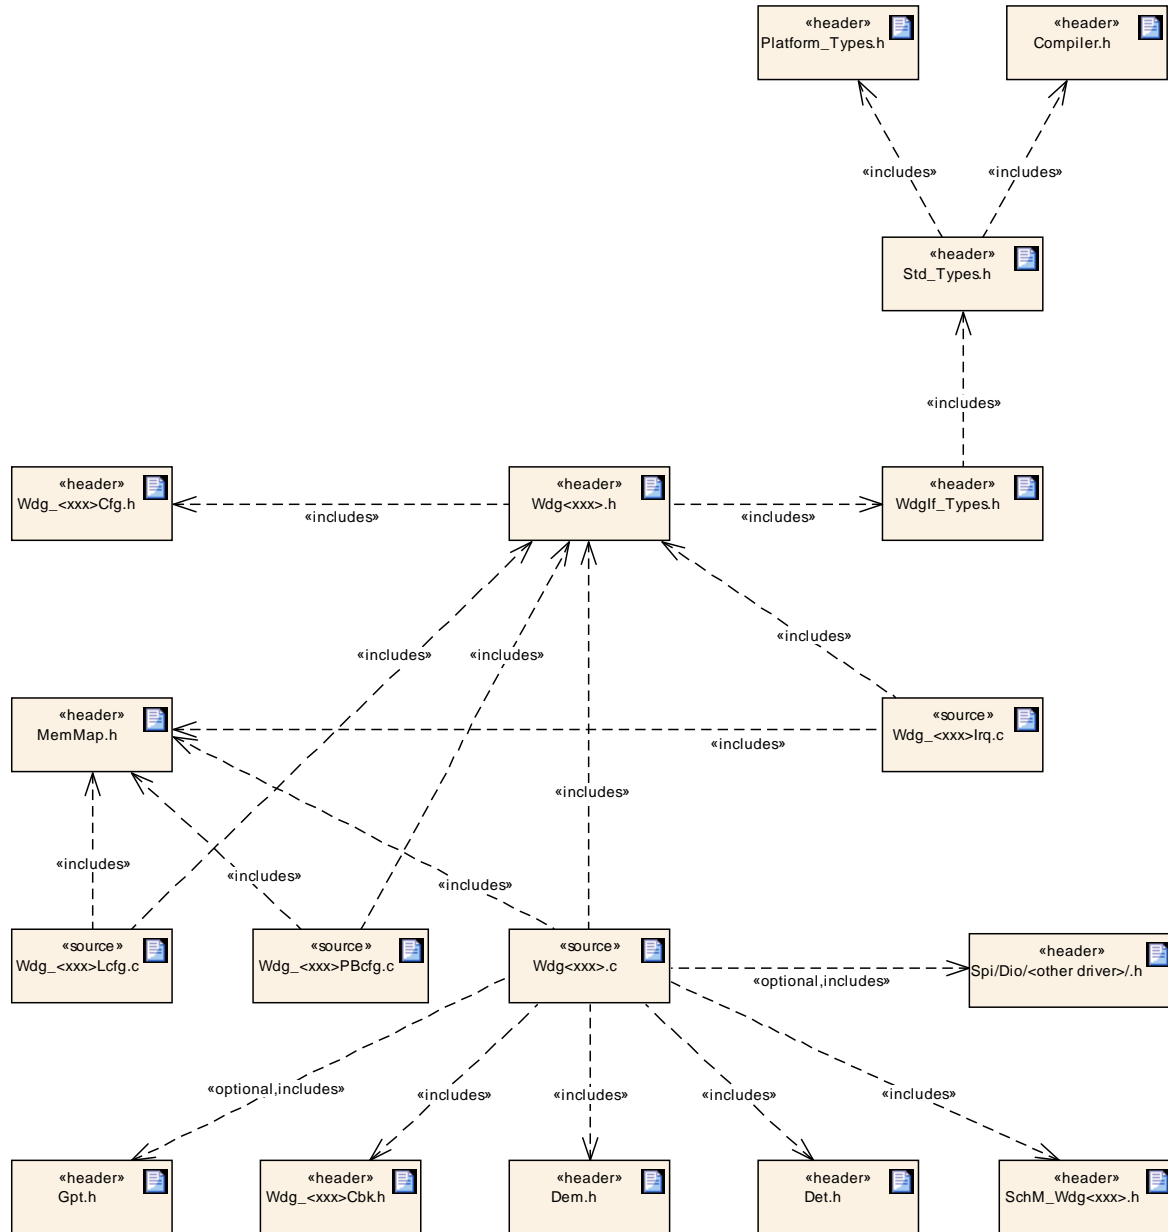

Figure 1: File include structure
- The possible name expansion for multiple driver modules are indicated as `<xxx>` in Figure 1.